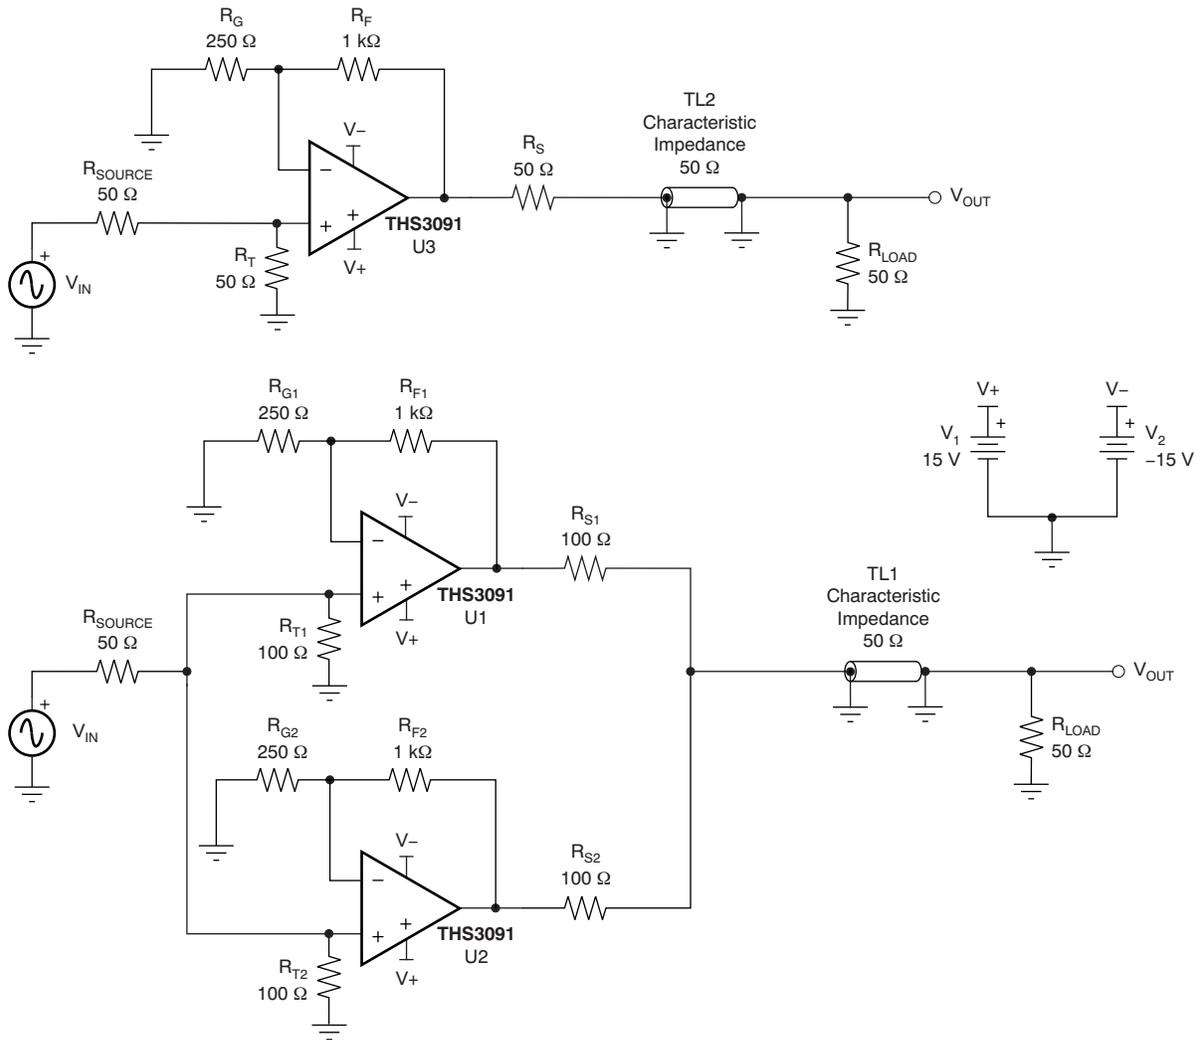

Figure 71. Reference THS3091 and THS3091 Load Sharing Test Configurations
The fundamental concept of load sharing is to drive a load using two or more of the same operational amplifiers. Each amplifier is driven by the same source. Figure 71 shows two THS3091 amplifiers sharing the same load. This concept effectively reduces the current load of each amplifier by  $1/N$ , where  $N$  is the number of amplifiers.
matching resistance (refer to Figure 71) driving a resistive load (RL), each series resistance is  $2 \cdot RL$  and each amplifier drives  $2 \cdot RL$ . A convenient indicator of whether an op amp will function well in a load sharing configuration is the characteristic performance graph of harmonic distortion versus load resistance. Such graphs can be found in most of TI's high-speed amplifier data sheets. These graphs can be used to obtain a general sense of whether or not an amplifier will show improved distortion performance in load sharing configurations.
Two test circuits are shown in Figure 71, one for a single THS3091 amplifier driving a double-terminated, 50-Ω cable and one with two THS3091 amplifiers in a load sharing configuration. In the load sharing configuration, the two 100-Ω series output resistors act in parallel to provide 50-Ω back-matching to the 50-Ω cable.